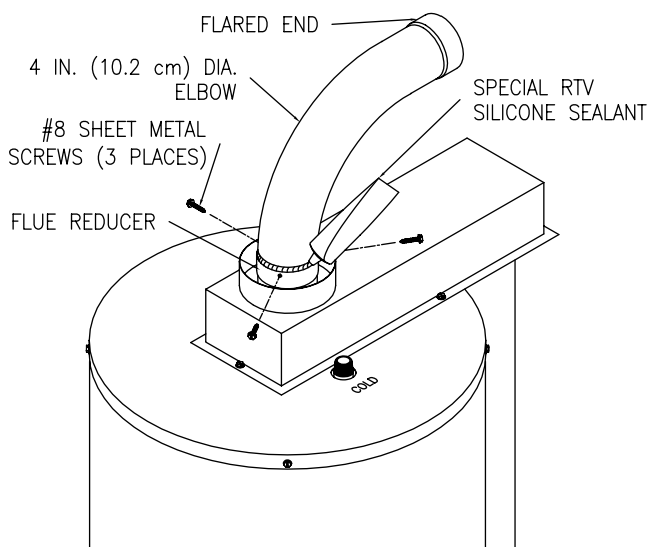

Figure 5
5. Insert the straight end of the four (4) inch (10.2 cm) diameter elbow into the flue reducer until firmly seated and oriented in the correct direction. With a 1/8 inch (3.0 mm) diameter drill bit (not supplied), drill three (3) holes, 120° apart, through the flue reducer into the four (4) inch (10.2 cm) diameter elbow. Fasten with three (3) #8 sheet metal screws (supplied). Using the supplied special RTV silicone sealant, apply a sufficient amount to seal the joint (See Figure 5).